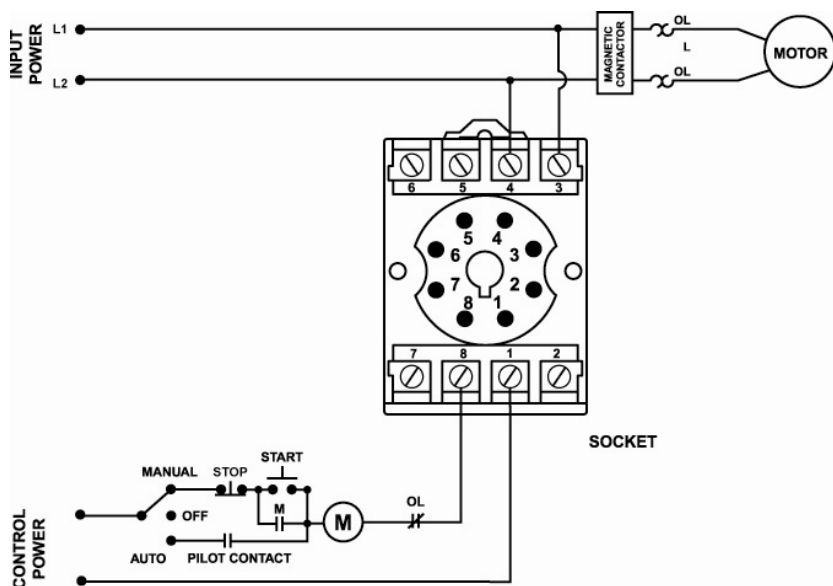

Figure 1: Typical Wiring Diagram for 201-100-SP, 201-200-SP
3. Connect L1 and L2 (terminals 3 and 4 for Model 201-XXX-SP and terminals 6 and 7 for Model 201-200-SP-T-9) to the LINE SIDE of the motor starter as shown in Figures 1 and 2.
4. Connect the output relay to the circuitry to be controlled. For motor control, connect the normally open contact in series with the magnetic coil of the motor starter as shown in Figures 1 and 2. For alarm operation, connect the normally closed contact in series with the control circuit (terminals 1 and 2).
| No lights are on -the unit seemscompletely dead              | N/A                                                                                        | Verify input power is connected to terminals as shown in Figures 1 and 2. If the voltage is below the specified operating voltage, the MotorSaver ® does not have enough power to operate its internal electronics. If the voltage is correct, call SymCom at (800) 843-8848 or (605) 348-5580. |